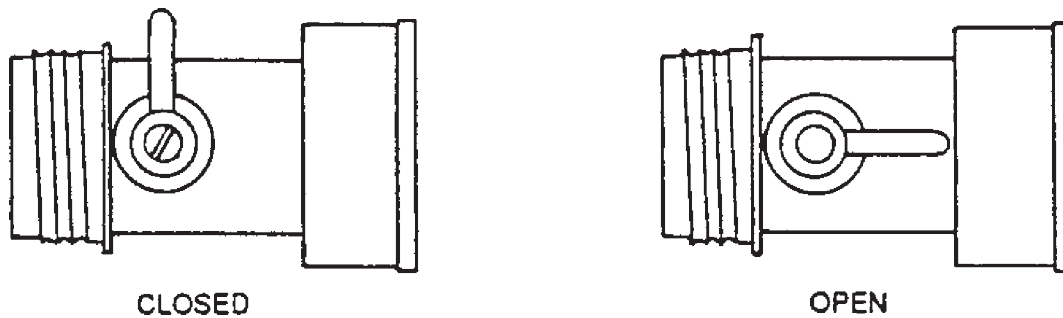

Fig. 5
7. Prime the system by turning on the water inlet valve (see Fig. 5). Allow the water to flow until the air is purged from the system.